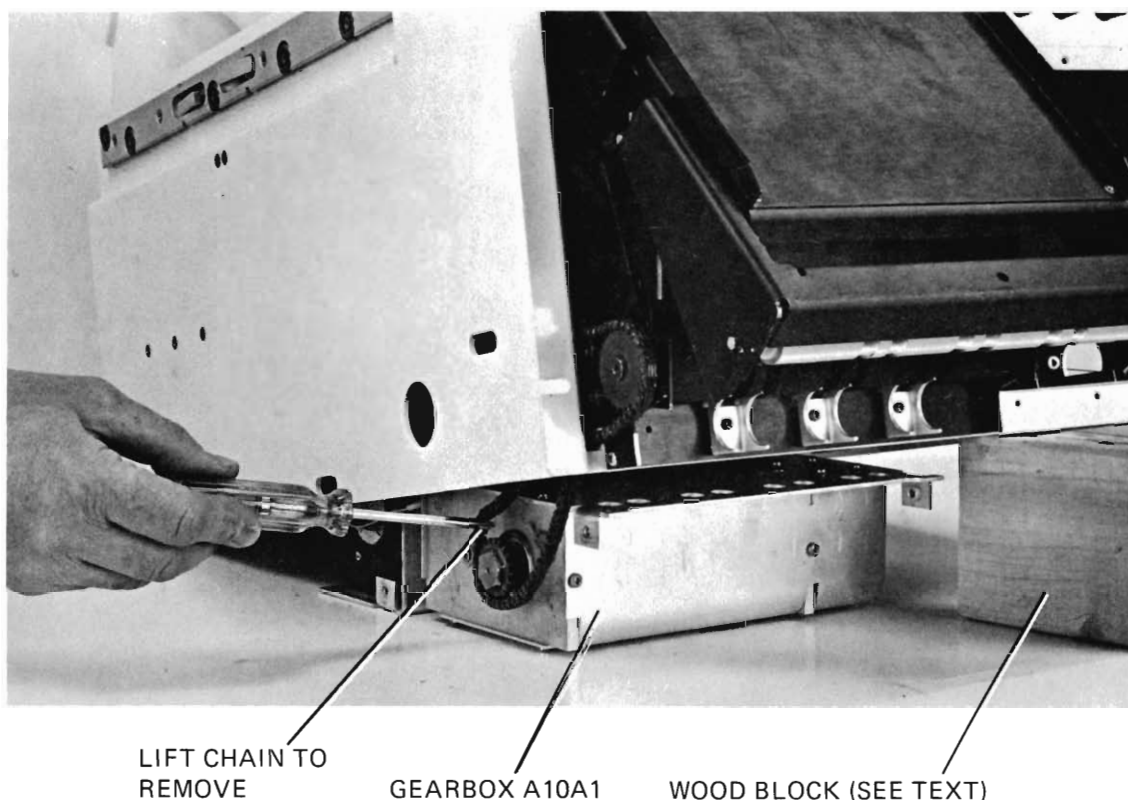

Figure 5-17. Drive Chain Removal
e. Elevate the front of the Recorder with a wooden block about 3.5 inches (7 or 8 cm) high. Lift the output chain away from the output sprocket as shown in Figure 5-17. NOTE: The gearbox should be lubricated whenever the recorder is overhauled, in addition to the normal lubrication at 12 months or 2000 hours of operation at varying speeds. Under continued low speed operation, the gearbox should be lubricated every 6 months or 1000 hours. Whenever an extended period of recording is anticipated, that is, for 30, 60 or 90 days continuous duty, a lubrication and inspection before the recording period will help to assure uninterrupted service. For a list of the recommended lubricants, see Table 5-2.